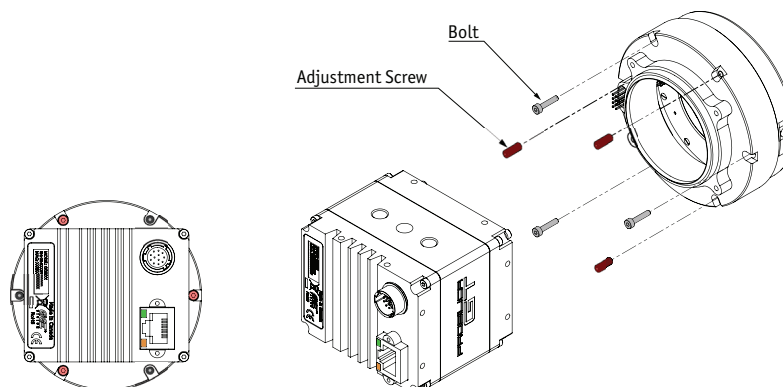

Figure 47: Back view (*left*) and exploded view (*right*) of Prosilica GT1930L camera assembly showing the adjustment screws and bolts in the EF-Mount
- Adjust the three adjustment screws, as indicated in figure 47, until all targets are in focus.